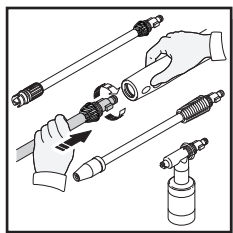

Fig. 6
- While the spray gun is in the locked position, insert the turbo lance, the adjustable spray lance, or the detergent bottle directly into the end of the spray gun by inserting and pushing together and turning clockwise simultaneously (Fig. 6). To remove push together and turn counter clockwise. Push the safety lock button to lock the trigger on the spray gun when changing lances or detergent tank, to ensure that they do not accidentally eject with force during removal.